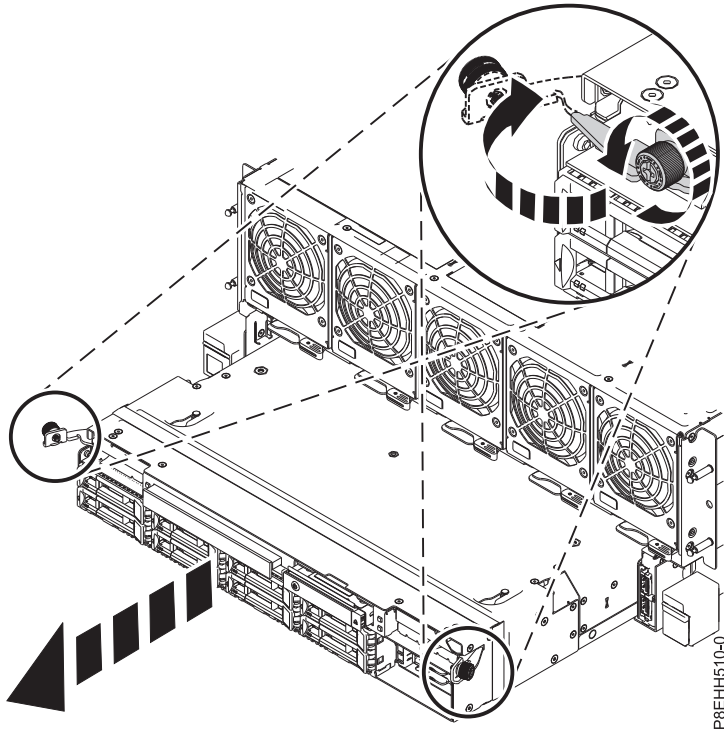

Figure 4. Removing the RAID assembly from the system
- b. Turn the thumbscrews in the direction shown. See Figure 4 on page 6.
- c. Pull out the latches and remove the RAID assembly from the system, as shown in Figure 4 on page 6.